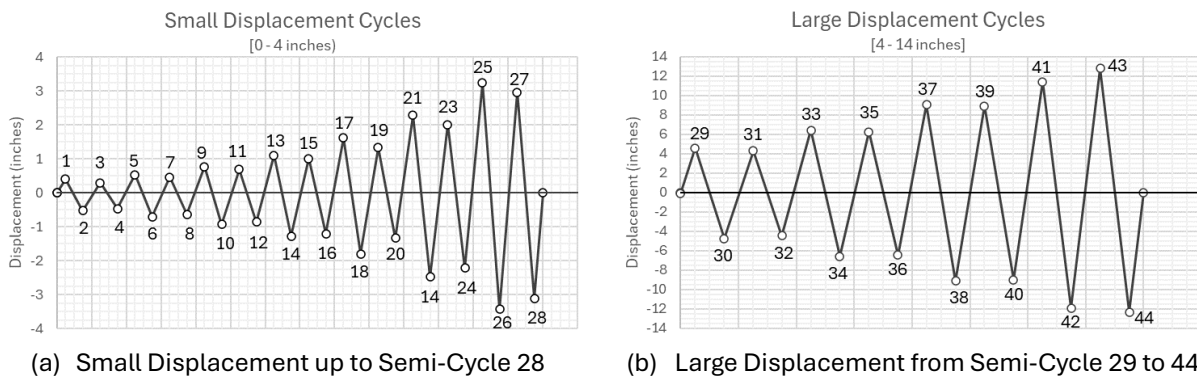

Figure 10: Lateral Loading Protocol
Each cycle considers two (2) consecutive target displacement cycles with the same amplitude. Refer to Figure 10 and Table 3.